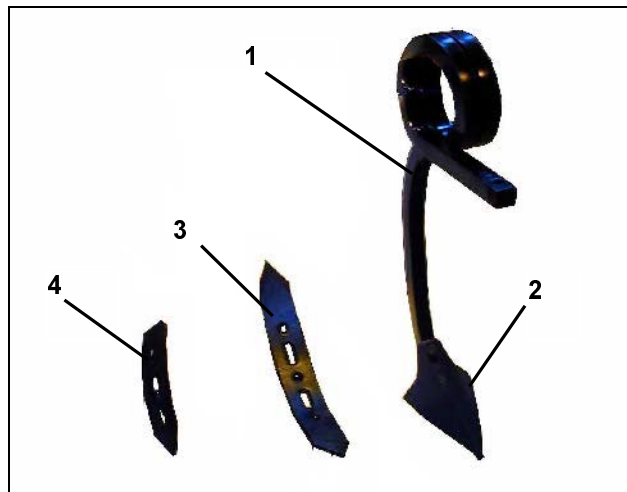

Fig. 7
The spring tines (Fig. 7/1) of the Centaur can be equipped with 3 different shear shapes:
- Stubble tilth shear (170mm) (Fig. 7/2): For the shallow stubble operation to mix volunteer grain and straw.
- Inversion shear (75mm) (Fig. 7/3): For medium depth mixing and good mixing of organic.
- Narrow shear (50mm) (Fig. 7/4): For basing loosening of the top soil. At deep loosening clods remain in the lower level.